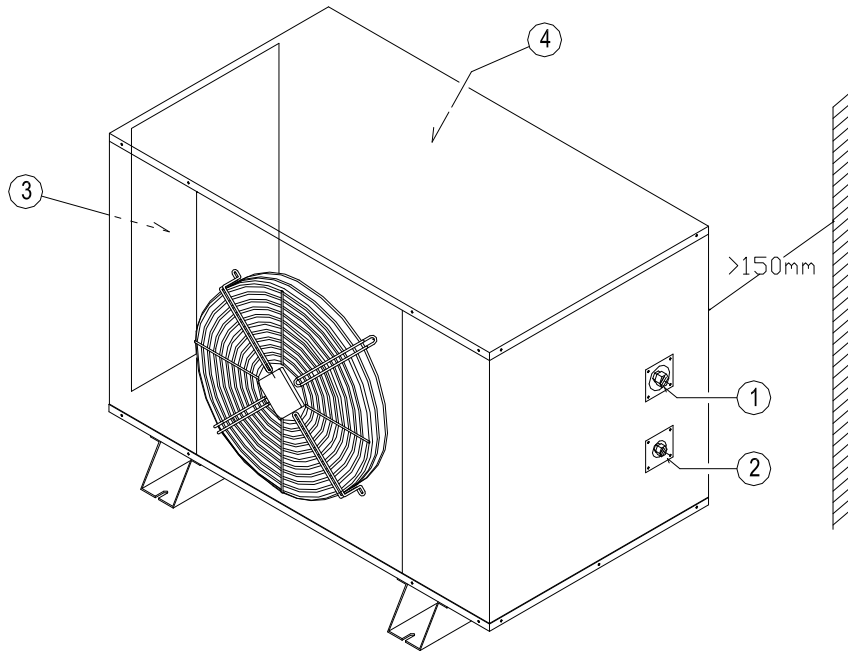

Fig. 1
CAUTION: The valves (1) and (2) in FIG.1 are shipped inside the condensing unit's electrical panel cover (3), whilst the electrical panel for installation on the cold room is packed in the condensing unit (4). To gain access to the valves, remove the electrical panel cover, whilst to gain access to the electrical panel for installation on the cold room remove the ventilation panels. Never remove the condensing unit's upper panel for this operation!
The condensing unit must be installed on a flat surface (supporting base) either outdoors or indoors, provided that if indoors sufficient ventilation is guaranteed. The grille side must be positioned at least 150 mm from the wall or from any obstacles, to allow an appropriate air intake as illustrated in FIG.1.